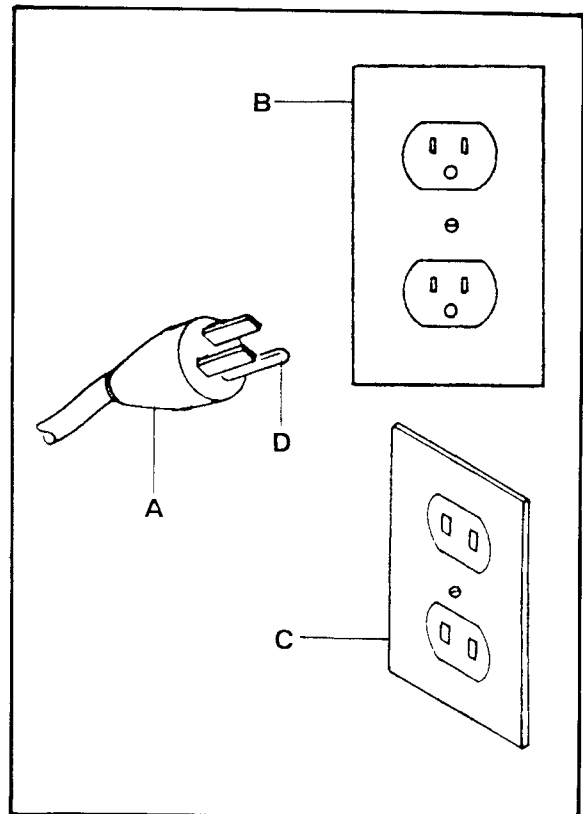

Fig. 2
The 712G bandsaw is rated 115/230v and before leaving the factory prewired at 115V. To switch to 230V operation, follow the wiring diagram found on the inside of the motor junction box. The plug end will have to be replaced with a plug that is rated at 230V. The coolant pump wiring must be changed also. Follow the diagram found on the cooling pump head to switch to 230V operation. This bandsaw is equipped with a three prong plug (A) in Fig. 2 against shock hazards and should be plugged into a grounded three prong receptacle (B). Where a two prong receptacle (C) is encountered, it must be replaced with one as (B). This job should be done by a qualified electrician. Do not cut off the round grounding prong (D). Before hooking up to the power source, be sure the power and coolant switches are in the off position.